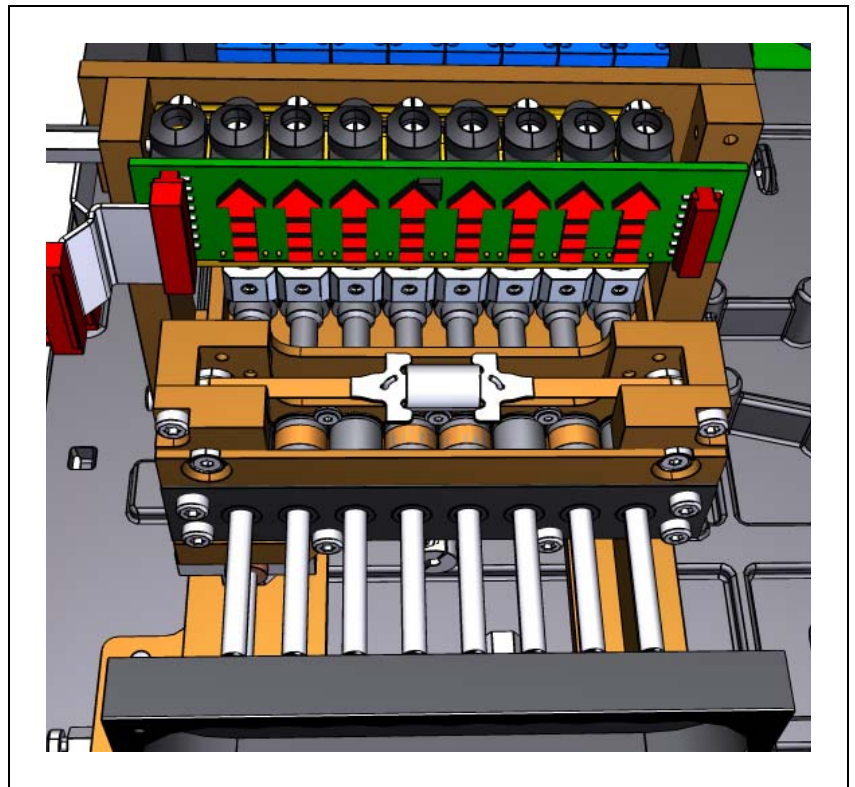

Figure 6-22. Release all tooltubes.
7. Release the Hz-wagon leaving it to rest in the lower position. In order to make the Hz-wagon stay in the bottom position, release the tool tubes by carefully pulling each one of the eight latches out (See Figure 6-22 and 6-23).